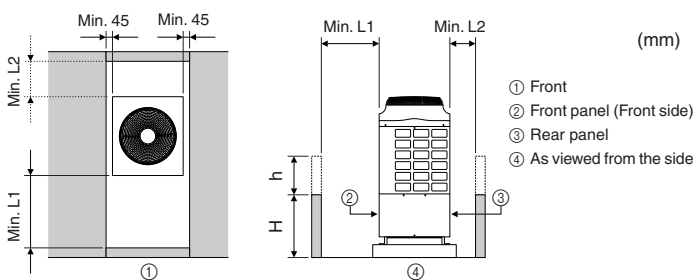

Fig. 2-7
(4) When there are walls around the unit (Fig. 2-7)